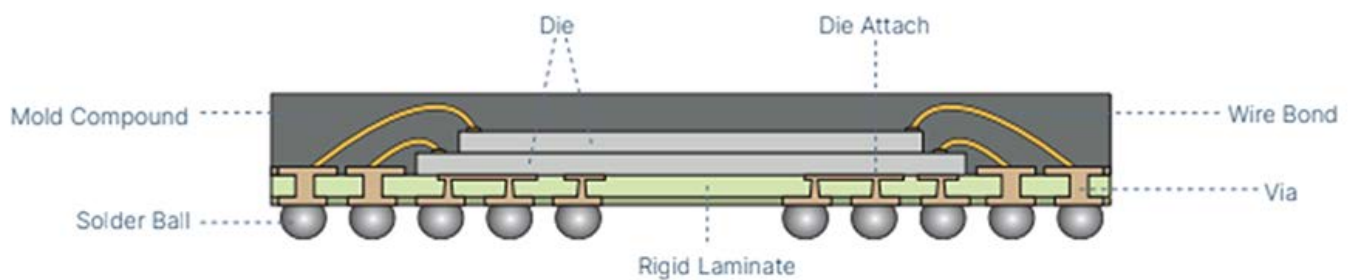

Figure 2. Cross-section of a SiP.
- Interposers, which enable interconnect between low- and high-resolution substrates, matching CTE, as well as stiffening the mechanical structure **(Figure 2)**.